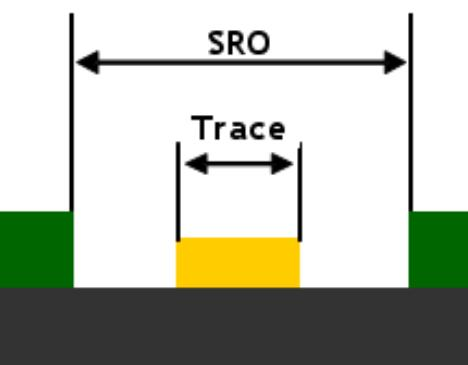

Figure 2: CUF process and UF fillet at dispense and exit side with 70µm thick FC die.
1. The capillary underfill (CUF) process with these gap heights was previously qualified in other PoP devices, with actual production experience, validating the high-volume manufacturing (HVM) capability of this process [5]. **Figure 2** shows the UF fillet shape achieved at both dispense and exit side with a 70µm-thick die used in the process.